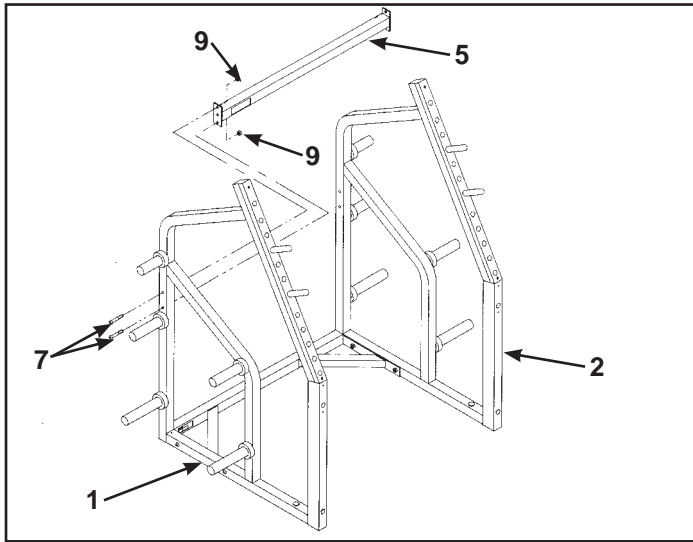

Figure 5
**5. Install upper brace (see steps 5A - 5D and Figures 5 and 6).**
- C. Attach one side of upper brace (#5) to one of the sides (#1 or #2) as shown in Figure 5 using two SHCS .50-13 x 3.00 (#7) and two locknuts .50-13 (#9). Do not tighten hardware at this time.
**6. Install bar stop to squat rack (see steps 6A - 6C and Figures 5 and 6).**